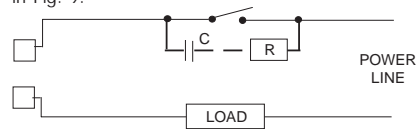

Fig. 9 EXTERNAL SWITCH IN SERIES WITH THE INTERNAL CONTACT
The same problem may occurs when a switch is used in series with the internal contacts as shown in Fig. 9.
In this case it is recommended to install an additional RC network across the external contact as show in Fig. 9. The value of capacitor (C) and resistor (R) are shown in the following table.